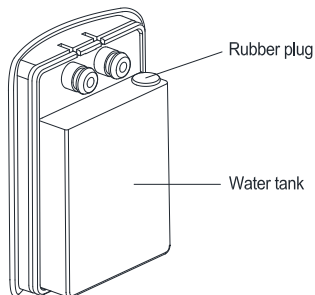

Figure 11
- (2) Remove the rubber plug (Figure 11)